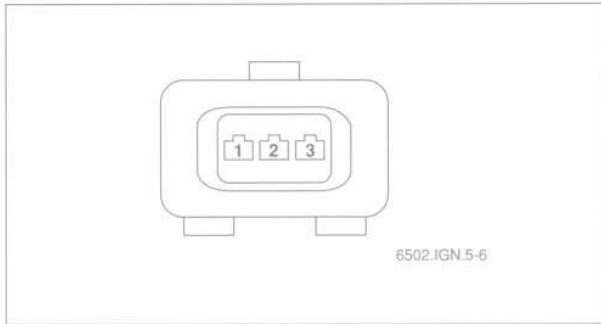

Fig. 8. Crankshaft position/rpm sensor connector (arrow).
- Using an ohmmeter, check the resistance between the terminals 1 and 2 in the sensor end of the connector. See Fig. 8.